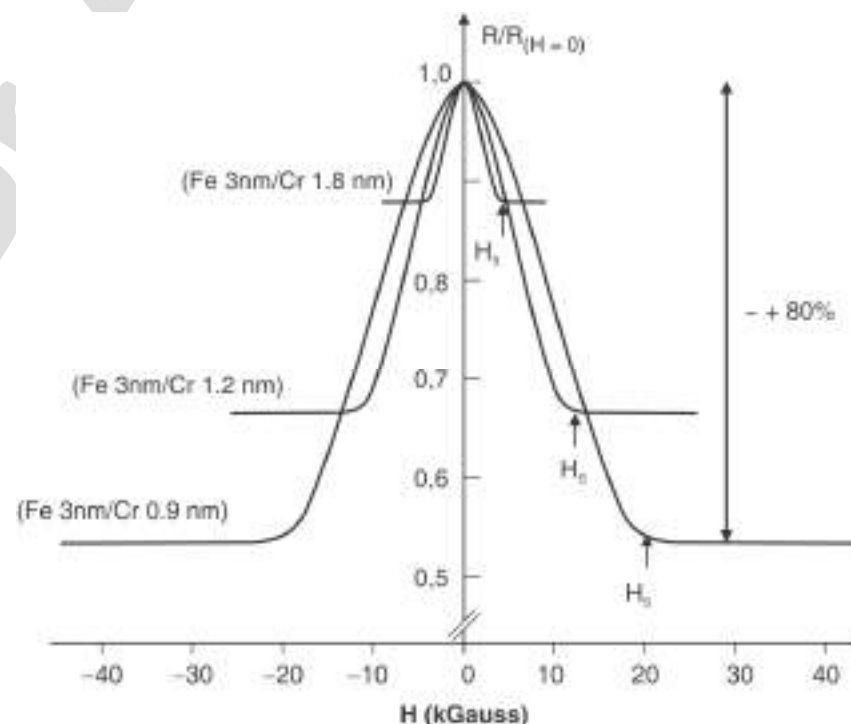
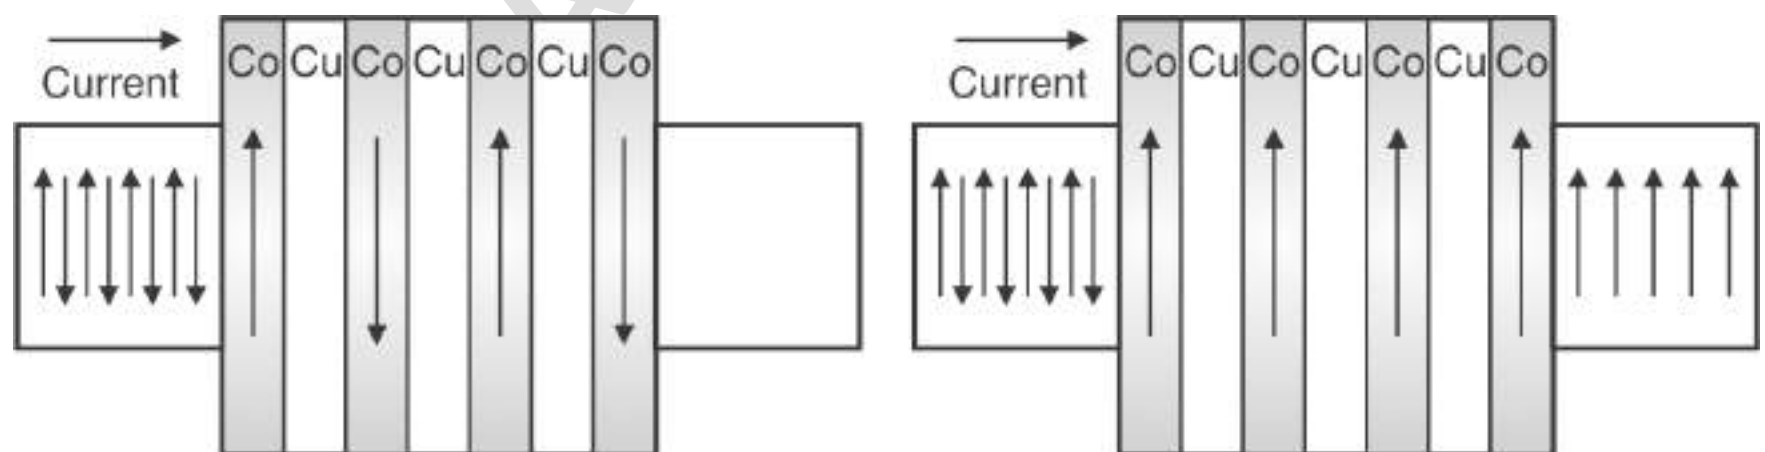

Fig. 12 Resistance vs. magnetic field curves.
Fig. 13: Conduction electron passes through Co|Cu layers structure
- This behavior is depicted in Fig. 12 (typically showing resistance vs. magnetic field curves).
- A schematic three-layer structure is shown in Fig.12. Nonmagnetic and conducting Cu layer is deposited between two ferromagnetic Co layers.
- The GMR effect occurs because conduction electron passes easily through the magnetic layer if it encounters the electrons with parallel orientation of the spin in the direction of magnetic field as shown in Fig. 12(b) and this process reduces the resistance. While if it encounters with electrons having antiparallel spin, it experiences the high resistance as shown in Fig. 12. This also can be easily seen from Fig. 13.